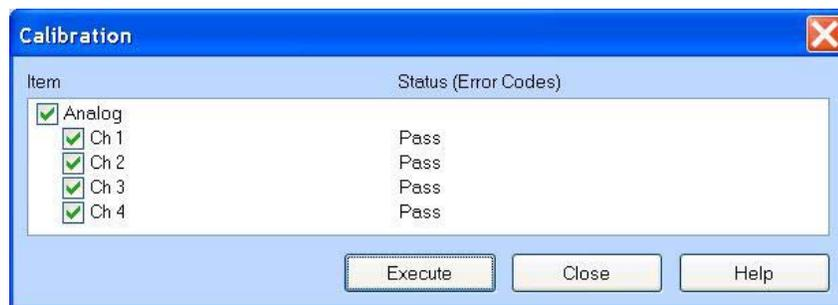

Figure 4-27: Calibration dialog box
2. From the menu bar, select **System** and then select **Calibration...**; the Calibration dialog box appears (see Figure 4-27).